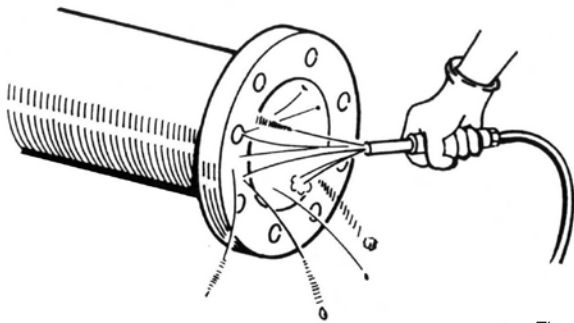

Fig. 9
- (1) Use air purging to clean the flange faces that will contact the valve. If there is rust or some other foreign material sticking to a flange face, clean it with a suitable cleaning fluid (alcohol or neutral detergent, etc.). (Fig. 9)